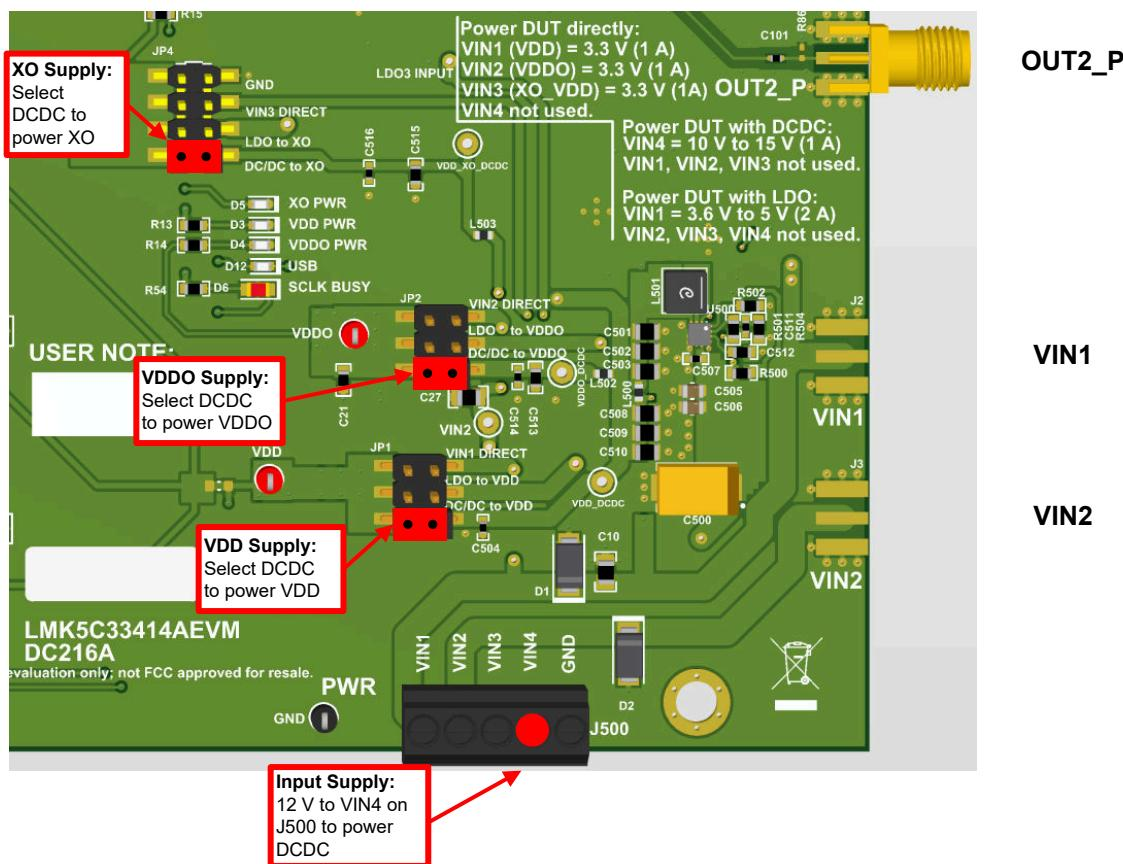

Figure 3-2. Default Power Jumper Configuration
- a. VIN4 and GND terminals on header J500 (pins 4 and 5, see Figure 3-2.)
Figure 3-2 shows the default power jumper locations and settings. Table 3-2 shows the suggested power configurations for the LMK5C33414A.